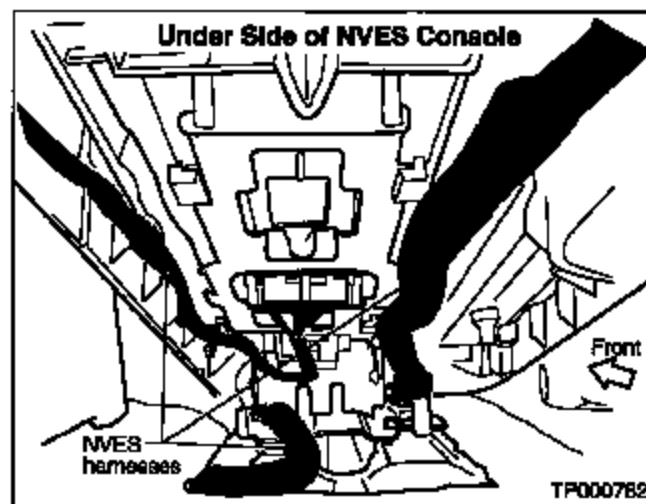

Figure 23
- A. Verify the wire harnesses (located under the console) are correctly positioned before lowering the console (see Figure 23). Confirming the harnesses are properly positioned will prevent them from being pinched/damaged.